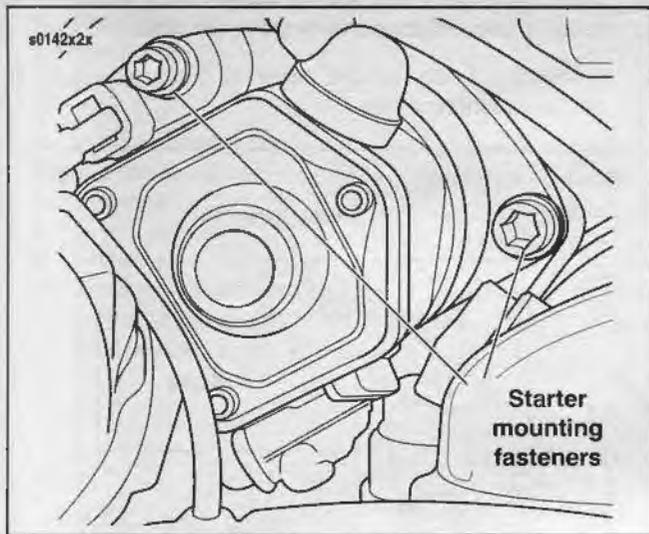

Figure 5-5. Starter Mounting
7. See Figure 5-5. Remove the starter mounting Allen head bolts and washers.
3. See Figure 5-5. Install the two starter mounting bolts and washers. Tighten mounting bolts to 13-20 ft-lbs (18-27 Nm).